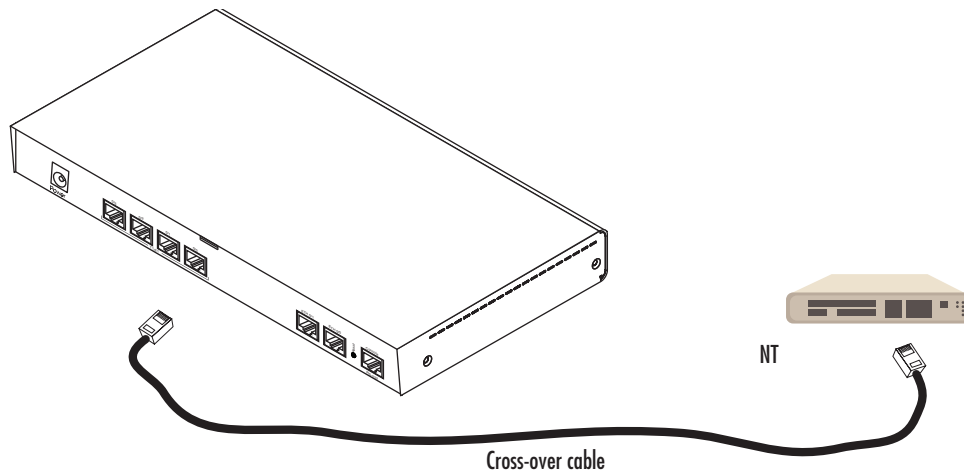

Figure 15. Connecting a T1 PRI port to an NT device
The T1 PRI is usually connected to a PBX or switch—local exchange (LE). Type and pin outs of these devices vary depending on the manufacturer. In most cases, a straight-through RJ-45 to RJ-45 can be used to connect the PRI with a PBX. A cross-over cable is required to connect to an NT device, as illustrated in Figure 15 on page 53.